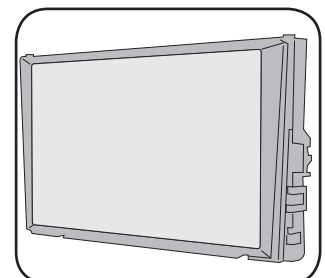

Fig. 1.17
- Place the Pioneer screen into the VW1 bezel. (Fig. 1.17)